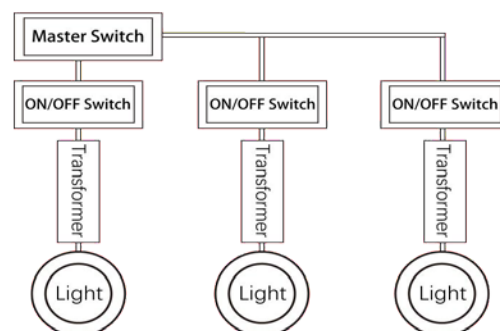

Figure 3
7. To achieve synchronization, make sure a master switch is installed. (See Figure 3).